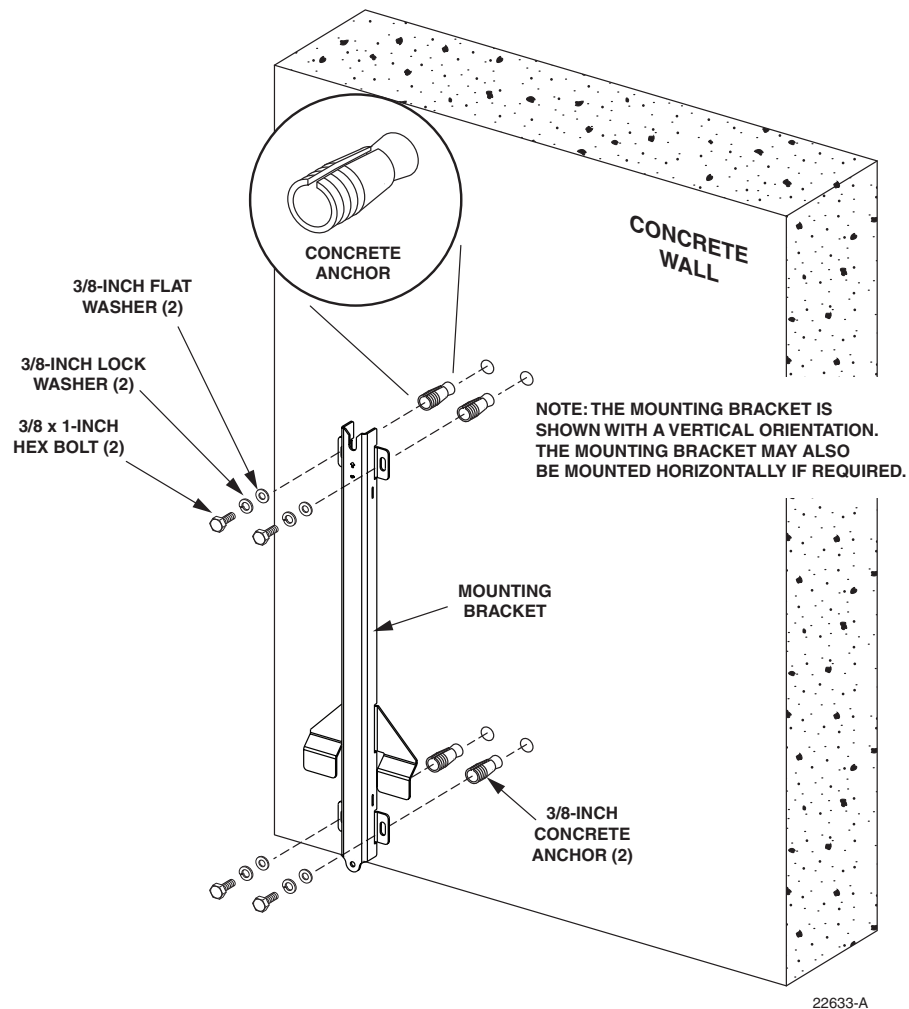

Figure 6. Secure Standard Mounting Bracket to a Masonry Wall
1. Hold the enclosure mounting bracket in position for installation on the masonry wall as shown in Figure 6. The end with the V-notch should be at the top.